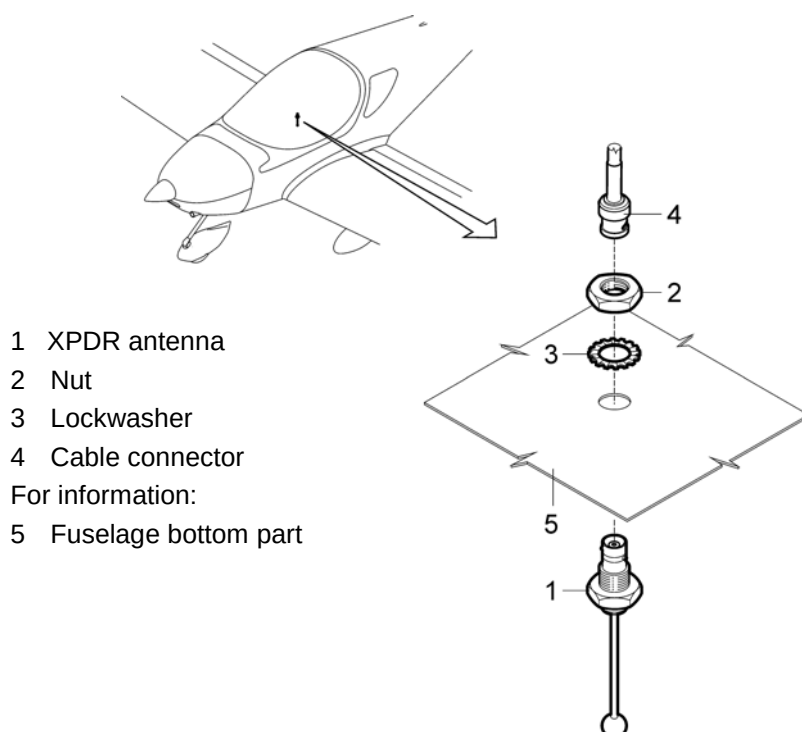

Fig. 12.3.25-1: Transponder antenna removal / installation
- Disconnect the connector (4, Fig. 12.3.25-1) from the antenna.
- Unscrew the nut (2), remove the washer (3) and the antenna (1).
- Insert the antenna (1, Fig. 12.3.25-1) to the hole in the fuselage bottom part (5).
- Insert the washer (3), screw and tighten the nut (2).
- Connect the connector (4) to the antenna (1).
- (e) Place the fin tip (6) on the fin (8) and fasten it by means of the screws (7).